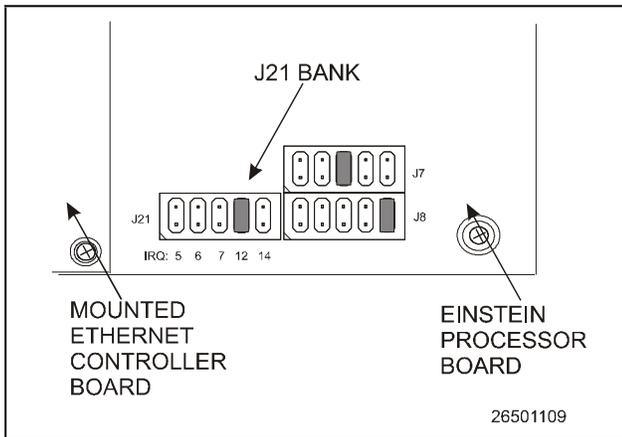

Figure 1-3 - Einstein Jumper Setup
3. Insure that the Einstein circuit board has a jumper in the correct position on J21. J21 is located in the bottom-right corner of the Einstein main processor board. See **Figure 1-3**.